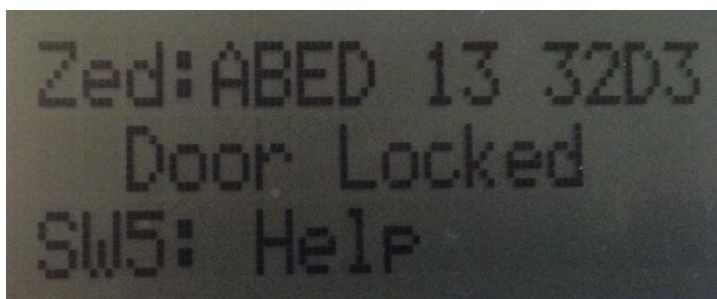

Figure 33: SampleDoorLockController showing status of SampleDoorLock
- Once the devices have been successfully paired, door lock toggle command can be sent from the controller to the door lock by pressing SW1 (**Figure 33**)